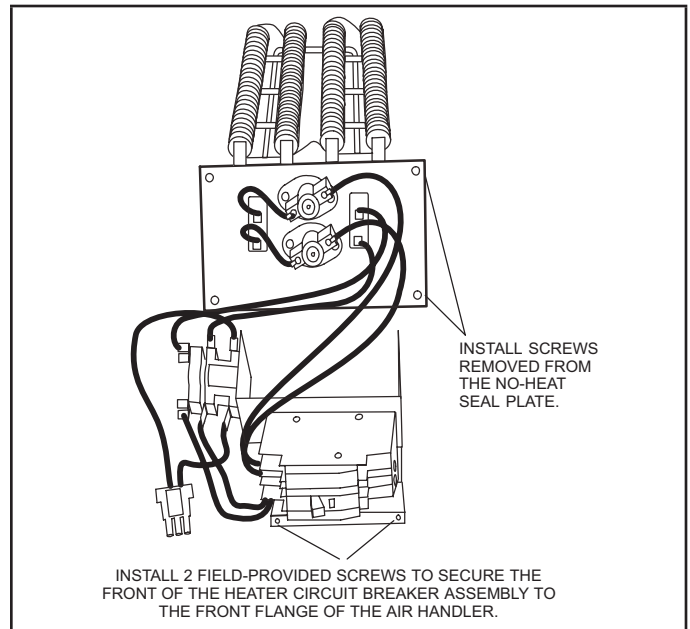

FIGURE 7. Installing the Heat Element Assembly
- 6 - Secure the electric heater assembly into place with the screws that were removed from the heat element panel. Install two field-provided #8 SDST screws in the front of the electric heater assembly (see figure 7).
- 3 - Set unit so that it is sloped toward the upflow drain pan end of the unit and level from front to back of unit (see figure 7).